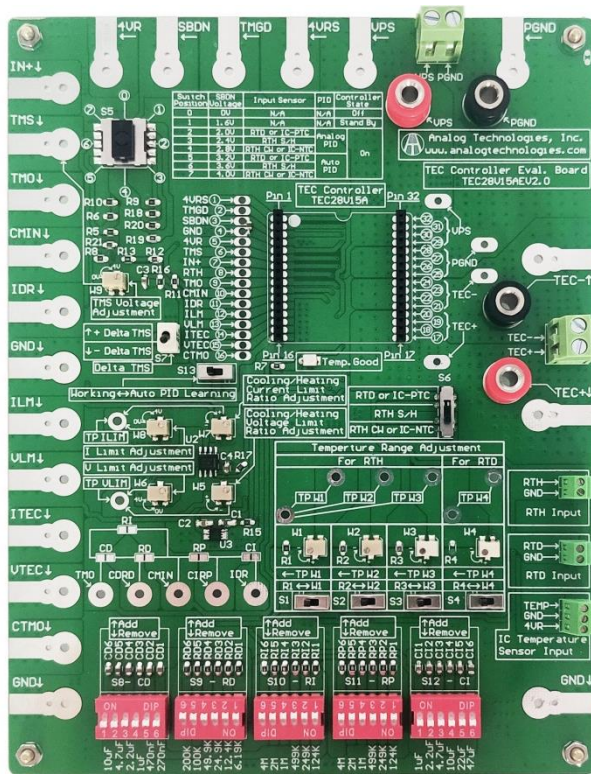
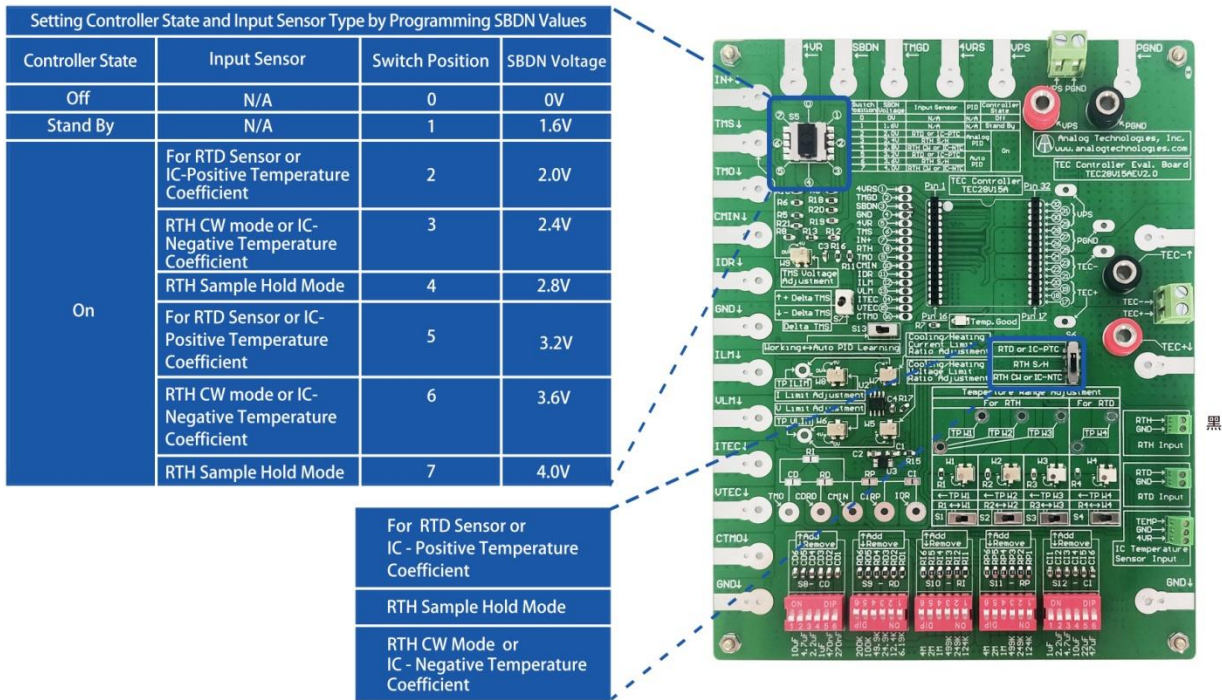
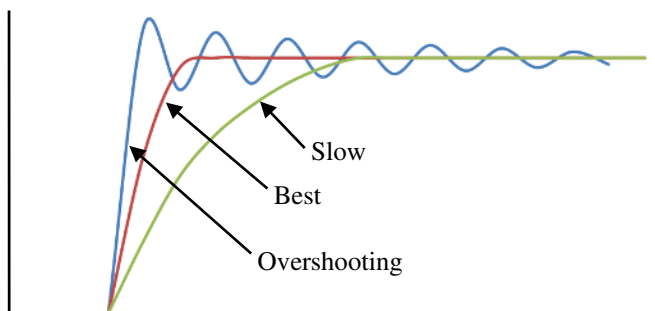
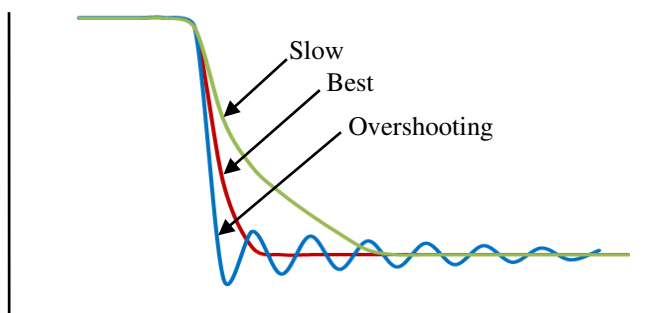

Figure 1. The physical photo of TCE28V15AEV2
Figure 4. Additional Information for Evaluation Board
Figure 11. Rise Waveforms of IDR
Figure 12. Fall Waveforms of IDR
The TEC28V15AEV2 Evaluation Board is consisted of a complete application circuit for driving a TEC controller. It can set the output current, the output current limit, has an LED for indicating the working status of the controller, has numerous connection pads and terminal connectors for making connections with external components and instruments. Its physical photo of TEC28V15AEV2 is shown in Figure 1.
3. In the PCB shown in Figure 1, there is an error in the function selection table of switch S5. See Figure 4 or Table 2 for the correct table.
Hook up the power supply, TEC and thermistor. There are 2 solder pads in the upper right area on the edge for connecting the DC power supply voltages. The connection can be done by clipping or soldering on the pads. Usually the power supply is set from 5V to 28V, a power supply of about having higher voltage than the maximum output voltage. There are also 2 solder pads in the upper right area on the edge for connecting the TEC terminals in the right polarity as indicated onto the board. Connect the thermistor terminals to the board, there is no polarity requirement. On the top of the board, there is the switch bank S5, which is used for adjusting S5 to achieve different functions, in Table 2. At the same time, adjust the position of S6 with S5. There is an IC port on the bottom left of the edge for IC temperature sensor input. The switch of S7 is used to adjust the compensation network of temperature control loop by inputting a square wave disturbing signal in temperature input point, which enables the system to generate corresponding response waveform. At this time, observe the waveform change by oscilloscope, and adjust and optimize the compensation network of the temperature control loop so as to achieve the best waveform at the same time. Response waveform is achieved by measuring IDR with oscilloscope, as shown in Figure 11 and Figure 12. The compensation network components consist of RI, RD, RP, CD and CI, which will be adjusted by S8, S9, S10, S11 and S12. These connections can be done by clipping or soldering on the pads, see Figure 1. Check the evaluation board connections, making sure that they are all correctly connected.